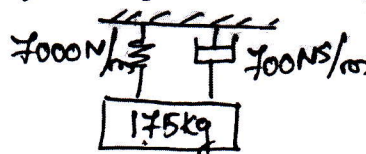

Fig Q4(b)
b. A spring mass damped system shown in Fig Q4(b) determine :